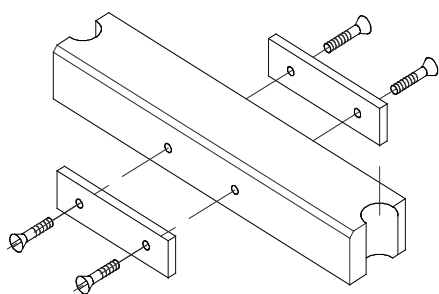

Figure 13.
Deviation in the centre line of the pipe (C), (Figure 13):